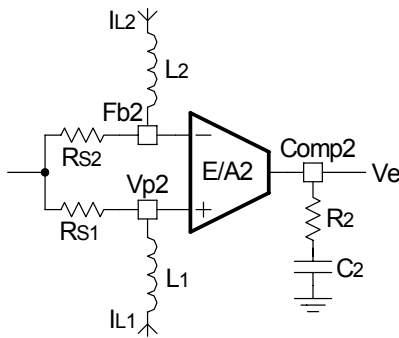

Fig. 22: The Compensation network for current loop
As shown the G(s) is a function of inductor current. The transfer function for compensation network is given by equation (23), when using a series RC circuit as shown in figure22.